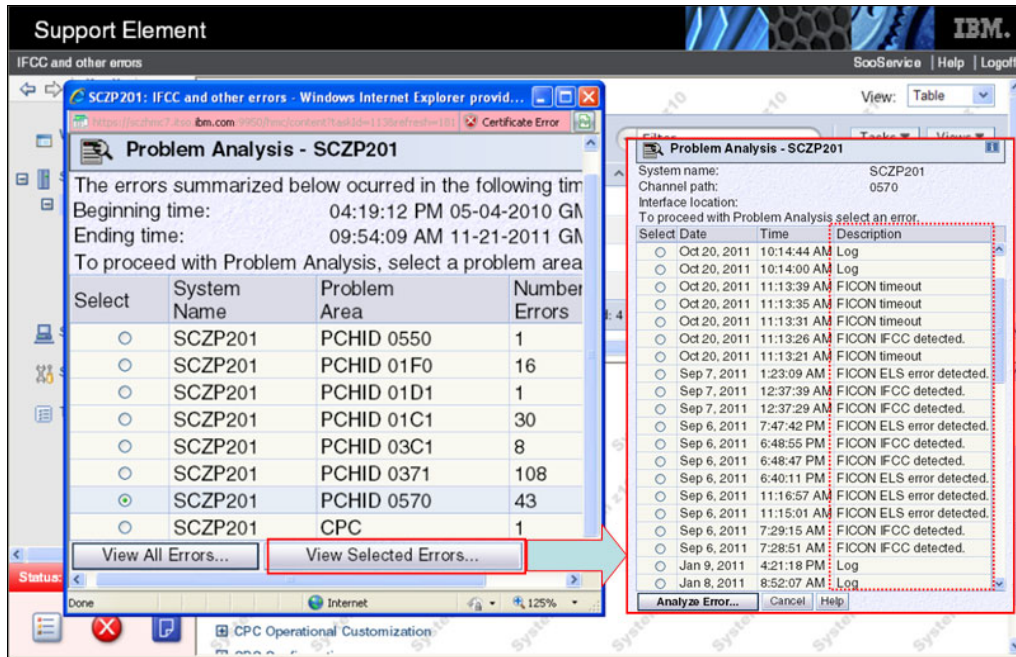

Figure E-20 IFCC and Other panel
- ▶ When you select a PCHID, all different types of FICON errors are displayed for the PCHID, as shown at Figure E-20 on page 454. Typical FICON error types are:
Figure E-20 shows the **IFCC and Other panel**.